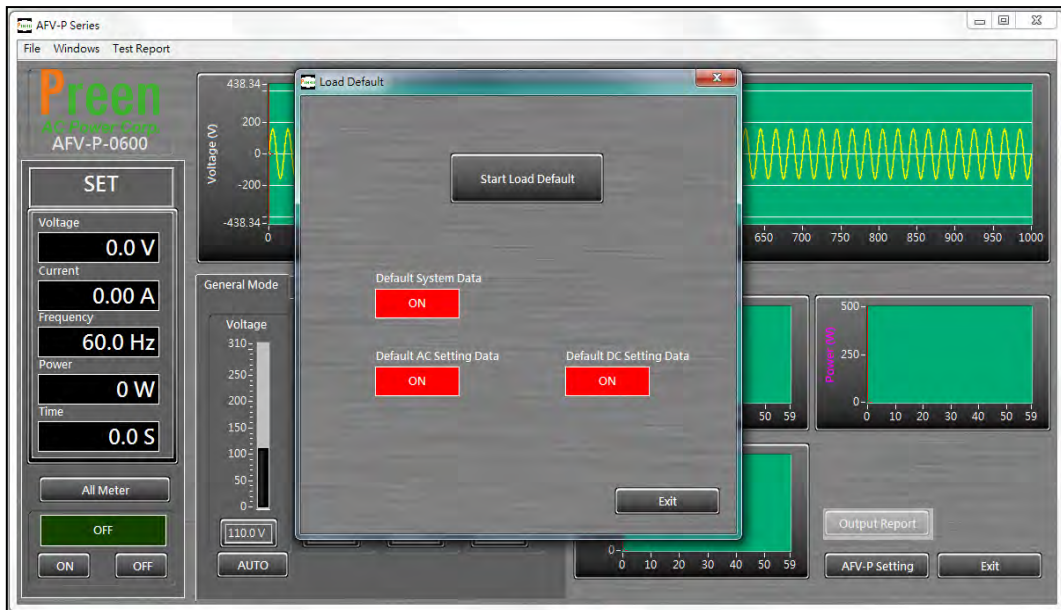

Figure 7.12 Select the desired settings to reset
- 3 Click the icon “Start Load Default” to reset the program mode (see Figure 7.12).